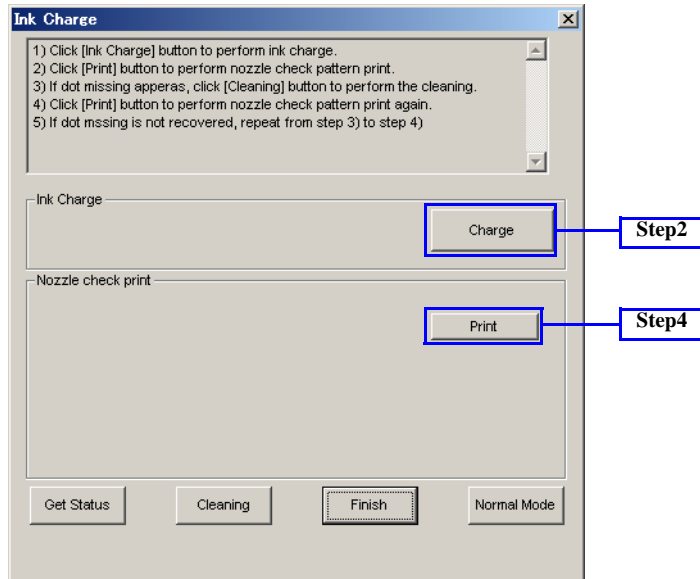

Figure 8-54. Ink charge (1)
4. Click “Print” button to print nozzle check pattern (See Figure 8-54).